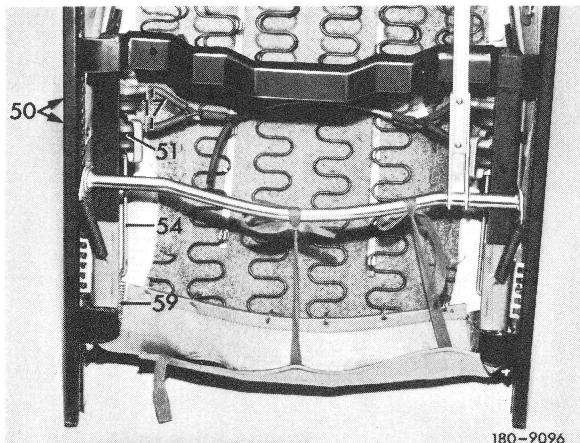
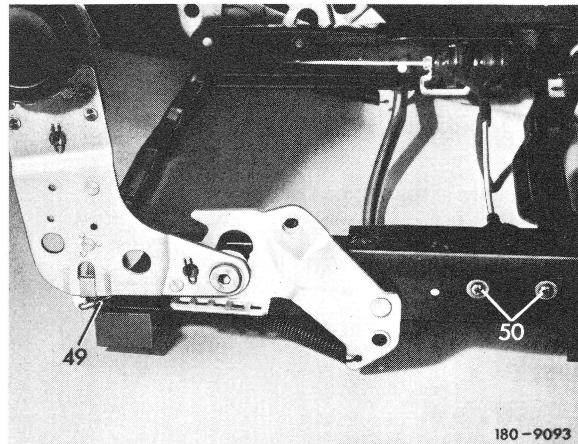

Fig. 2
Fig. 3
- 3 Unscrew both oval head screws (50) (arrows Fig. 2). (Fig. 3).
- 4 Disconnect safety clip (49) (Fig. 3).
10 Insert vacuum element with actuating rod and screw down with oval head screws (50) (Fig. 3).
11 Secure actuating rod with safety clip (49) (Fig. 3).